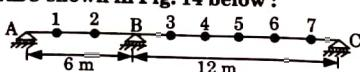

Fig. 14.
b. Using Muller Breslau principle, compute the influence line obtained at 2 m intervals for reaction at C of the continuous beam ABC shown in Fig. 14 below :